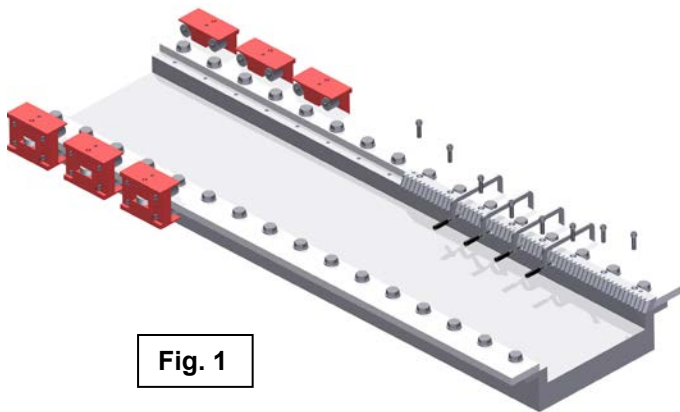

Fig. 1
- Attach the fixing screws but do not tighten them fully. (Fig. 1)